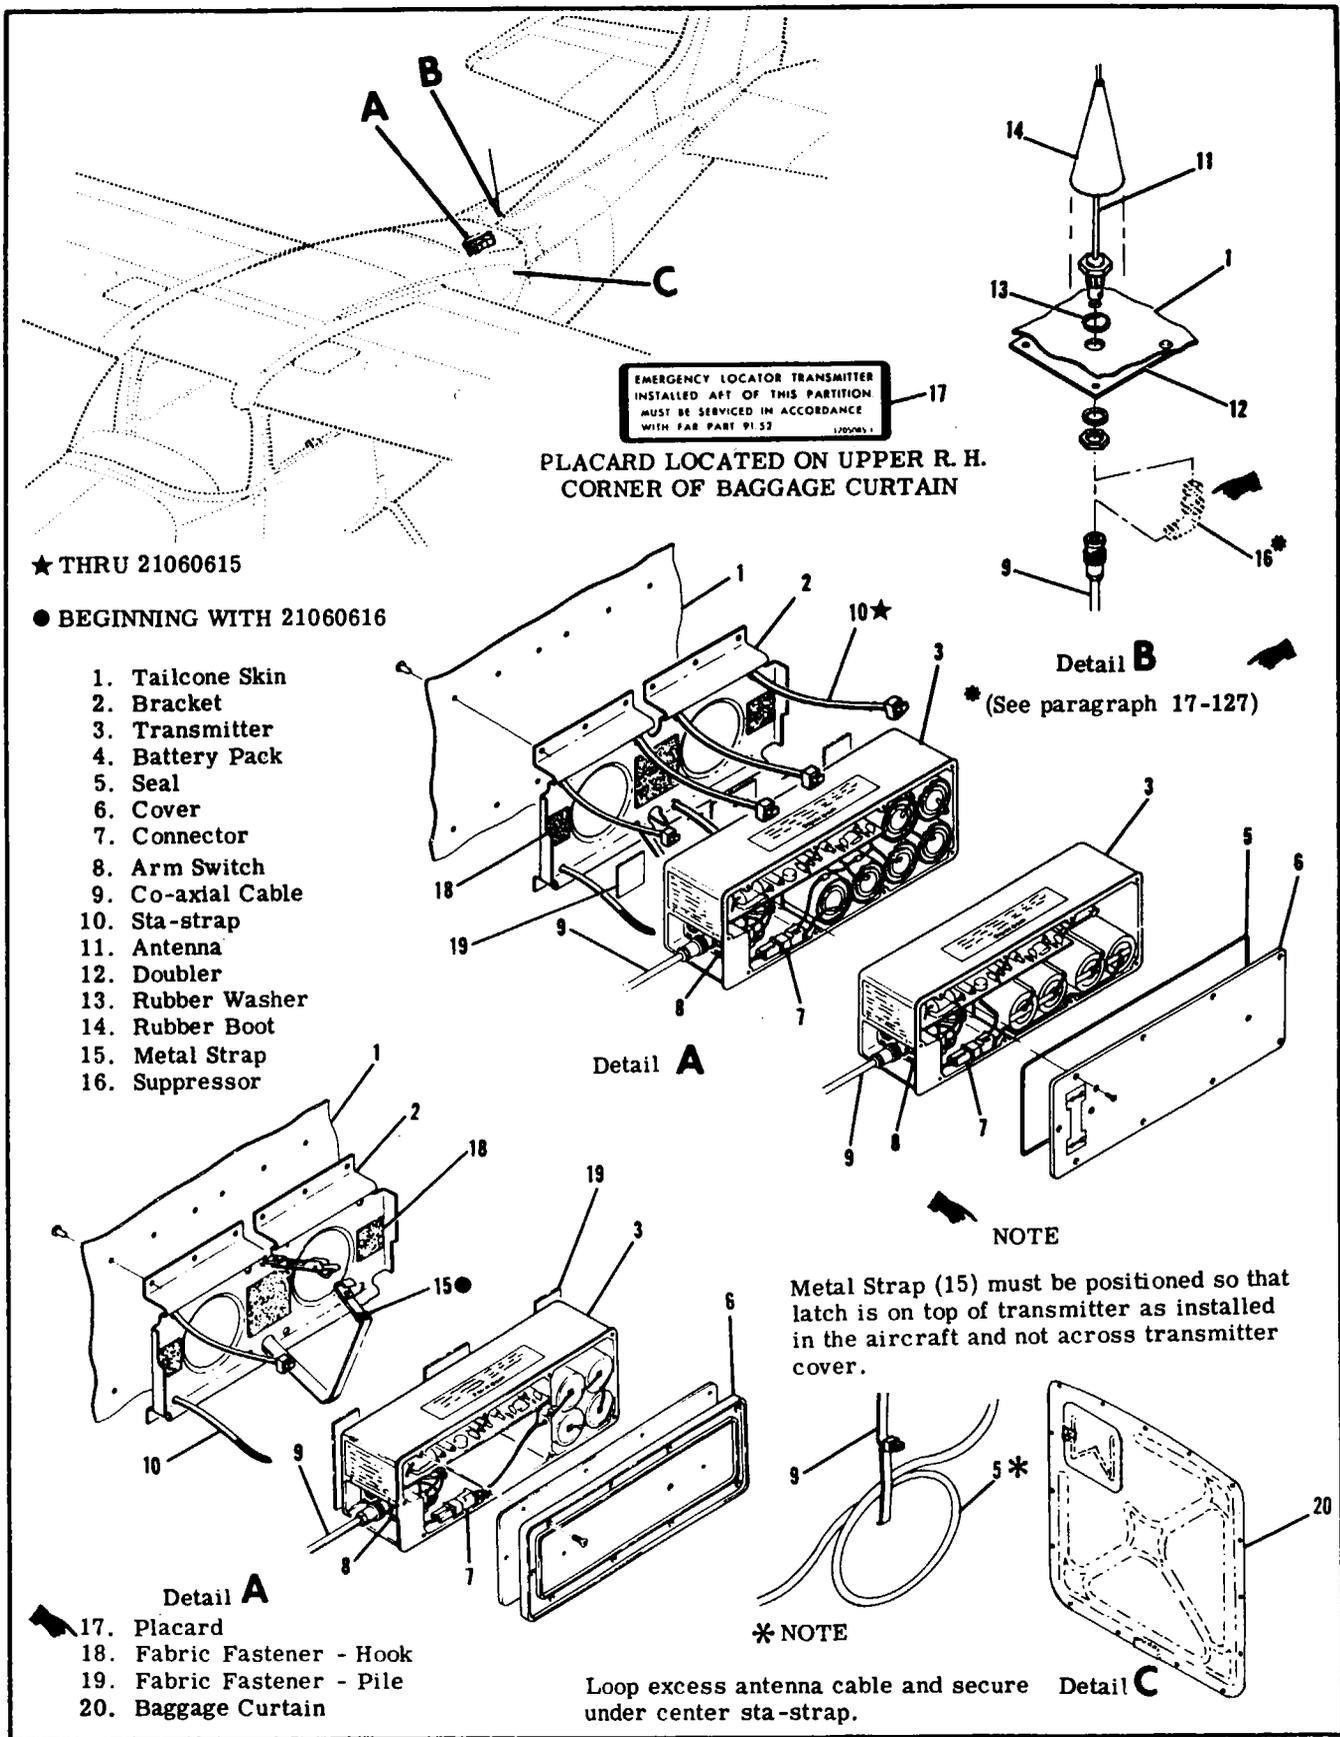
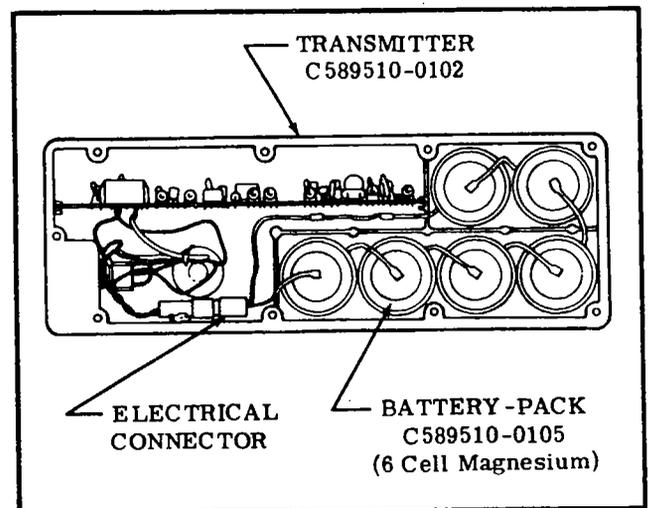

Figure 17-20. Emergency Locator Transmitter Installation
Figure 17-21. Magnesium 6 Cell Battery-Pack Installation
17-123. DESCRIPTION. The ELT is a self-contained, solid state unit, having its own power supply, with an externally mounted antenna. The C589510-0209 transmitter is designed to transmit simultaneously on dual emergency frequencies of 121.5 and 243.0 Megahertz. The C589510-0211 transmitter used for Canadian registry, operates on 121.5 only. The unit is mounted in the tailcone, aft of the baggage curtain on the right hand side. The transmitters are designed to provide a broadcast tone that is audio modulated in a swept manner over the range of 1600 to 300 Hz in a distinct, easily recognizable distress signal for reception by search and rescue personnel and others monitoring the emergency frequencies. Power is supplied to the transmitter by a battery-pack which has the service life of the batteries placarded on the batteries and also on the outside end of the transmitter. ELT's thru early 1974 models, were equipped with a battery-pack containing six magnesium "D" size dry cell batteries wired in series. (See figure 17-21) Mid 1974 thru early 1975, ELT's are equipped with a battery pack containing four "in-line" lithium "D" batteries wired in series. Early 1975 and on ELT's are equipped with a battery-pack containing four lithium "D" size batteries which are stacked in two's (See figure 17-20). The ELT exhibits line of sight transmission characteristics which correspond approximately to 100 miles at a search altitude of 10,000 feet. When battery inspection and replacement schedules are adhered to, the transmitter will broadcast an emergency signal at rated power (75 MW-minimum), for a continuous period of time as listed in the following table.
17-126. REMOVAL AND INSTALLATION OF TRANSMITTER. (Refer to figure 17-20.)
17-127. REMOVAL AND INSTALLATION OF ANTENNA. (Refer to figure 17-20.)
In-service 6 cell magnesium battery-pack powered ELT's require the installation of a static electricity suppressor in the antenna cable to prevent the possibility of damage to the case of the ELT. Refer to Cessna Avionics Service Letter AV74-16 and figure 17-20.
17-128. REMOVAL AND INSTALLATION OF MAGNESIUM SIX (6) CELL BATTERY-PACK. (Refer to figure 17-21.)